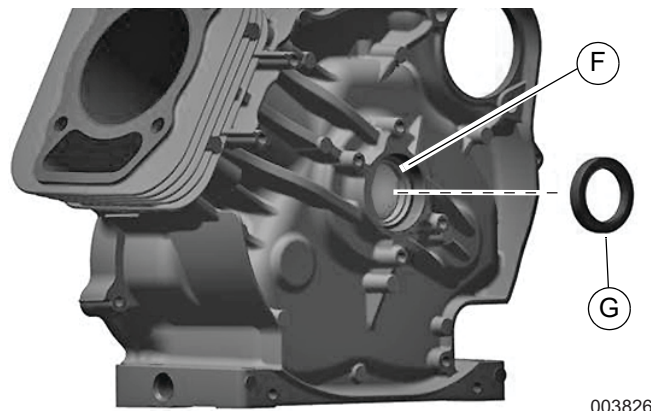

Figure 14-3. Install Crankcase Side Main Seal
3. See Figure 14-3. Verify crankcase side main seal bore (F) is clean and free of burrs or debris. Orient crankcase side main seal (G) with cavity toward crankcase. Press seal into crankcase until fully seated.